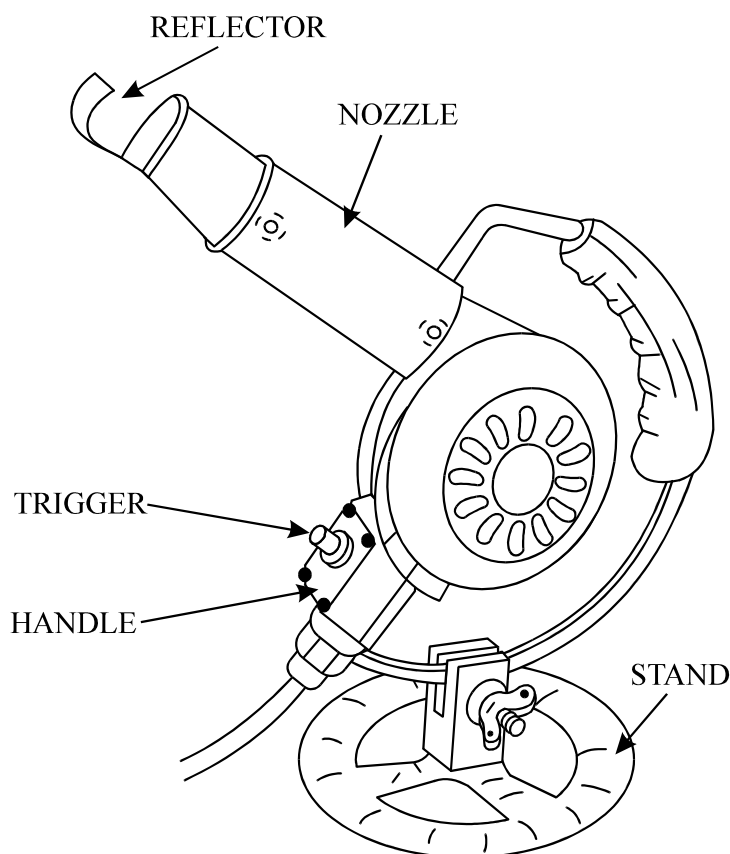

Figure 3-21 Turbofan Type Heat Gun
48. The Thermogun Mark II heating tool, illustrated in Figure 3-21, is a rugged stand mounted or hand held hot air tool. The heating tool has been engineered with a turbo fan driven blower and a double jacketed element housing for heavy duty use. It has features such as adjustable side vents for limited temperature control, and a wide variety of hot air reflectors. The Thermogun provides precise control when terminating a broad range of heat shrinkable products including boots and tubing up to 75 mm in diameter.